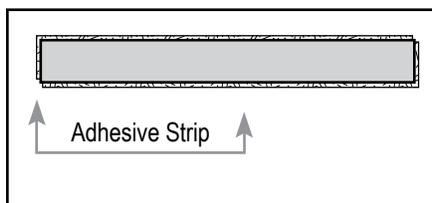

Fig. 3
- Carefully position the adhesive strip centered along the edge and end of the plank without overlapping the strips. When done correctly, the plank(s) will have an adhesive strip on both sides and one end (Fig. 3).